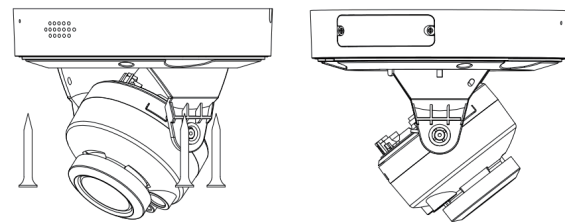

Figure 2-6 Ceiling installation Figure 2-7 Adjusting the viewing angle
3. Direct ceiling installation: Align the installation base directly with the holes, and fix the camera base at the position to be installed with three PA3.5*25 screws. As shown in Figure 2-6: